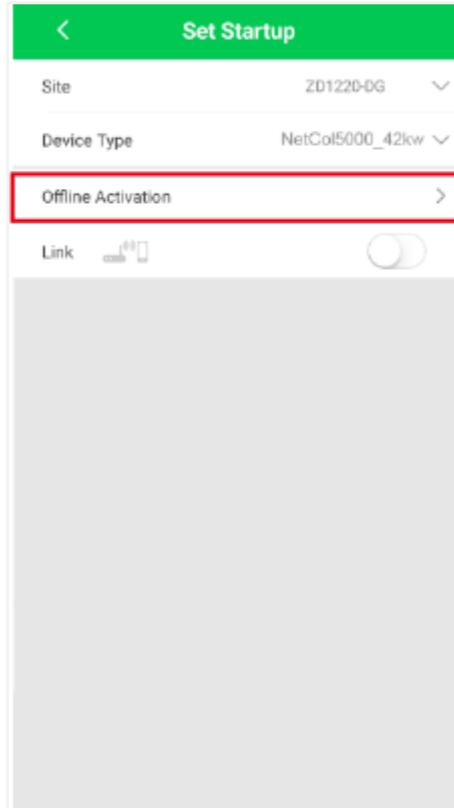

Figure 2-23 Offline activation
Step 3 Tap StartUp on the home screen of the app and the screen shown in Figure 2-23 is displayed.